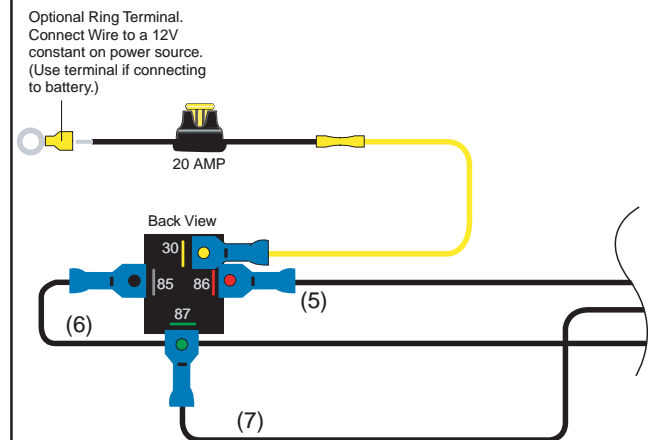

Figure 7
5. Using a butt connector, attach the 12 gauge wire from the terminal 30 on the back of the relay to one end of the 20 amp fuse holder (Figure 7).
6. If choosing to use the ring terminal, attach it to the other end of the fuse wire (Figure 7).